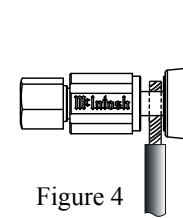

Figure 4
- For the MC275 MONO Mode of operation, use the supplied Jumper Bars for connecting the Output of the Left and Right Amplifier Channels in parallel. Insert the Jumper Bar into the terminal side access hole of the LEFT OUTPUT (-) Negative Terminal post and the other end of the Jumper Bar into the RIGHT OUTPUT (-) Negative Terminal post. Tighten the terminal caps until the Jumper Bar is firmly clamped into the terminals so the Jumper Bar cannot slip out nor touch the chassis. Refer to Connection Diagram located on the separate folded sheet “**Mc1B**”. Also refer to figures 4, 5 and figure E.